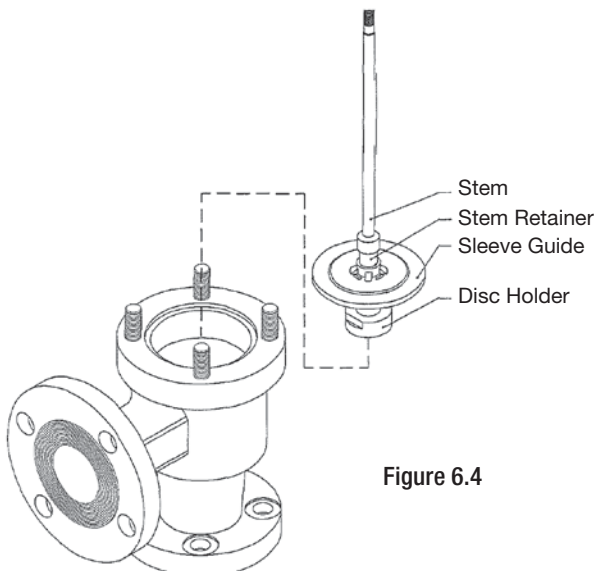

Figure 6.4
8. Using the **Stem** [9] as a handle, lift the complete internal assembly from the valve **Body** [1]. **(Figure 6.4)**